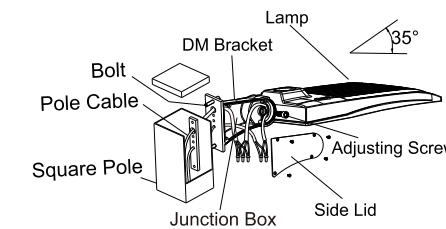

Figure 12
Step 1: Fix DM bracket to square pole with bolt, open the side lid of DM bracket, pull the wire into junction box, and connect the wire correctly. (Figure 12)
Notice: Adjustable angle is 0-35° (Figure 12).